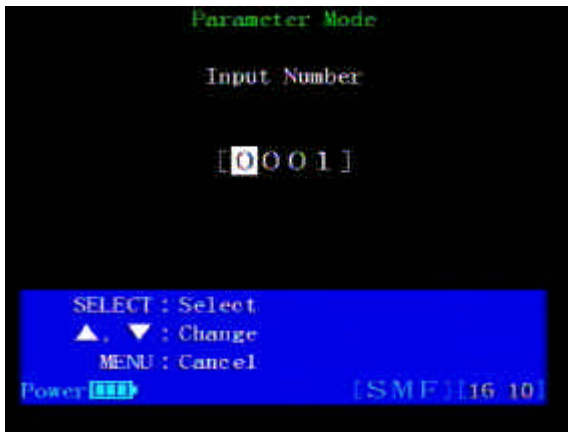

Figure 11. Editing Numeric Values
1. As shown in Figure 11, the highlighted block indicates the active digit.